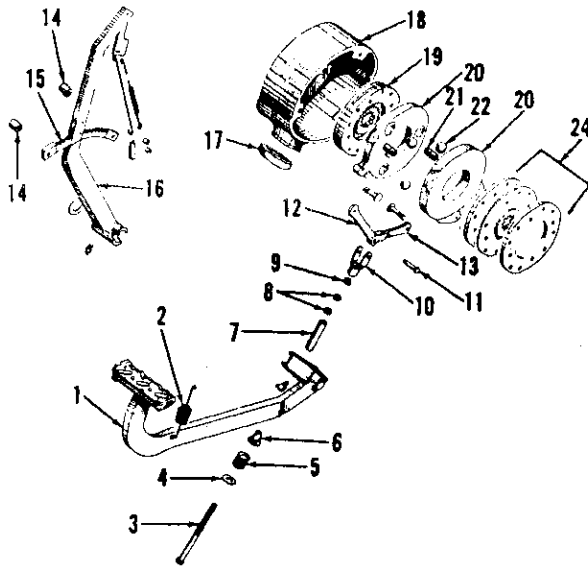

Fig. 125—Exploded view showing component parts of Series B-275 right hand disc brake assembly. Early Series B-414 are similar.
Series B-275 and early production B-414 tractors are equipped with the 5-3/8 inch brakes shown in Fig. 125. B-414 tractors having serial number 31374 and up (diesel) or 4360 and up (non-diesel) and all Series 354, 364, 384, 424, 444, 2424 and 2444 tractors are equipped with 6 1/2 inch brakes. See Fig. 127.
Fig. 124—Left brake of B-275 tractor showing brake rod and points of adjustment. Step plate has been removed for illustrative purposes. Early Series B-414 tractors are similar. Refer to Fig. 125 for legend.
Disassembly of brakes is obvious upon examination of the units and reference to Figs. 125 and 127. Wash all parts except the linings in solvent. Inspect all parts and renew defective or worn parts as necessary.
On Series B-275 and early B-414 tractors, if brake operating rod is disassembled, reset the spring preload by turning down first jam nut (8—Fig. 125) until spring (5) is compressed solid, then back off nut three turns. Install second jam nut (8) and tighten against first to hold this setting.
181. R&R AND OVERHAUL. To remove right brake, proceed as follows: Remove differential lock thrust plate and pedal. On Series B-275 and early B-414 tractors, loosen jam nut (9—Fig. 125) and unscrew brake operating rod from yoke. On Series 354, 364, 384, 424, 444, 2424, 2444 and late B-414 tractors equipped with 6½-inch brakes, disconnect brake pedal return springs and remove the brake operating rod pin. Then, on all models, unbolt brake housing and remove housing, outer brake disc, actuating assembly and inner brake disc.